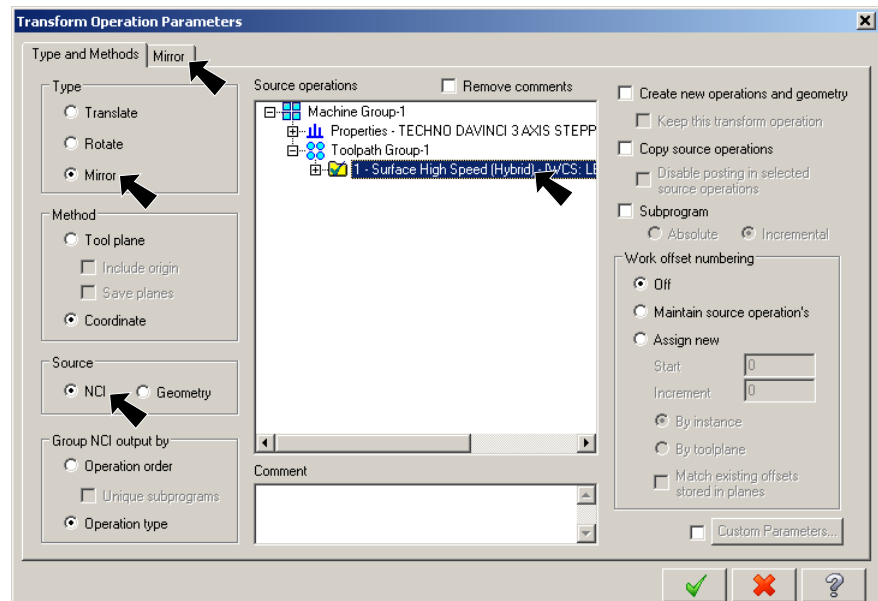

Fig. 26
Step 3. Under Type, select **Mirror**, Fig. 26.
Step 4. Under Source, select **NCI**, Fig. 26.
Step 5. Under Source operations, select **Surface High Speed (Hybrid)**, Fig. 26.
Step 6. Click the **Mirror** tab at the top of the dialog box, Fig. 26.